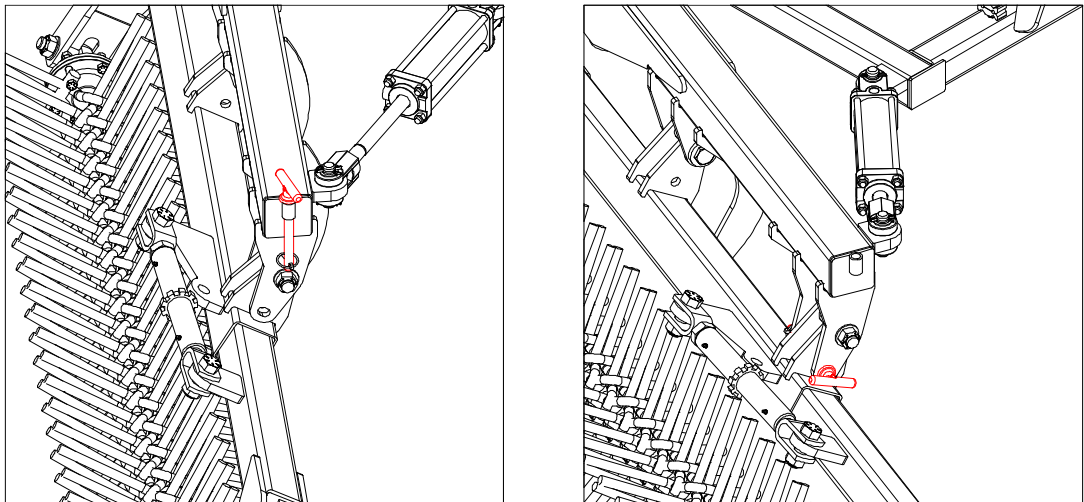
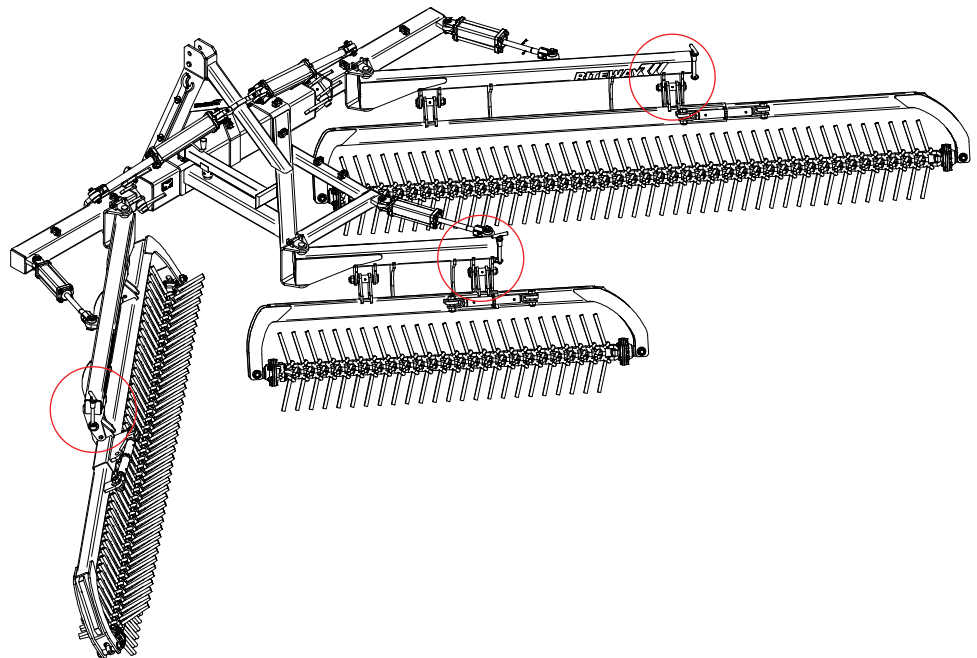

FIGURE 1 : Transport lock pins
FIGURE 2 : Transport lock pin locations
- Exit the tractor and install the transport lock pins into each of the three harrow section pivot locations (fig. 1) if the pins are not already installed in the locked position.
4. Exit the tractor to remove the transport lock pins from each of the three harrow section pivot locations (fig. 2). Store the lock pins in the provided holders on the end of each lift arm (fig. 1).
3. Exit the tractor to install the transport lock pins in each of the three harrow section pivot locations (fig. 2).